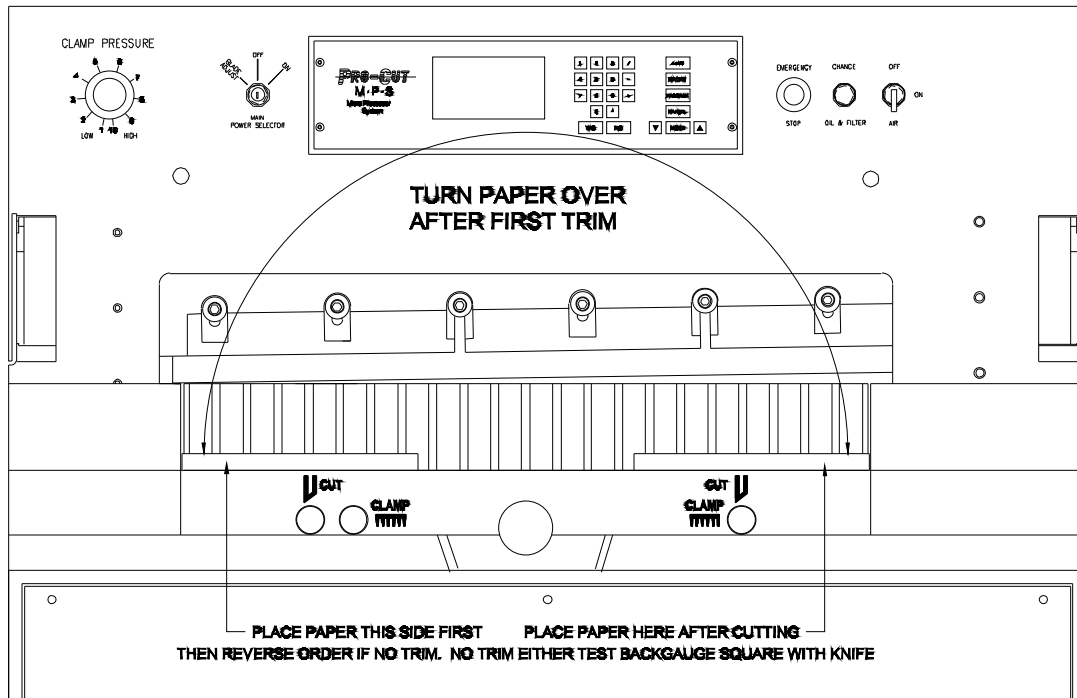

Fig 27
1. Place the 11” side of paper against the left side of the backgauge and not touching the side plate. Cut a 1/4” off of the paper stack. Fig. 27.
3. Turn the stack over from left to right and place it on the right side of the backgauge and not touching the side plate. Cut the stack. Fig. 27.